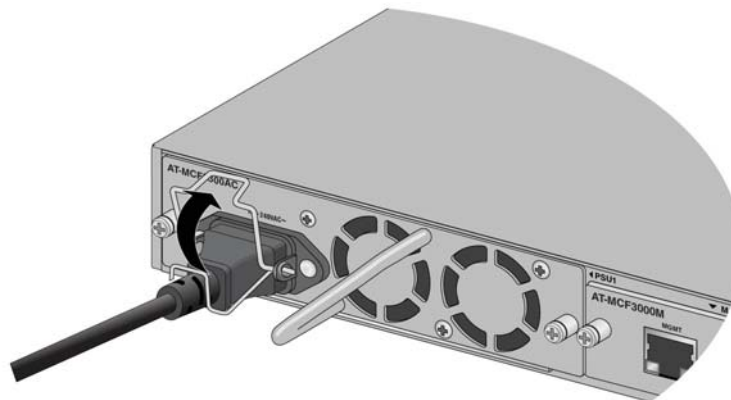

Figure 67. Raising the Power Cord Retaining Clip on the MCF3300AC Power Supply
2. Raise the retaining clip on the power cord. Refer to Figure 67.